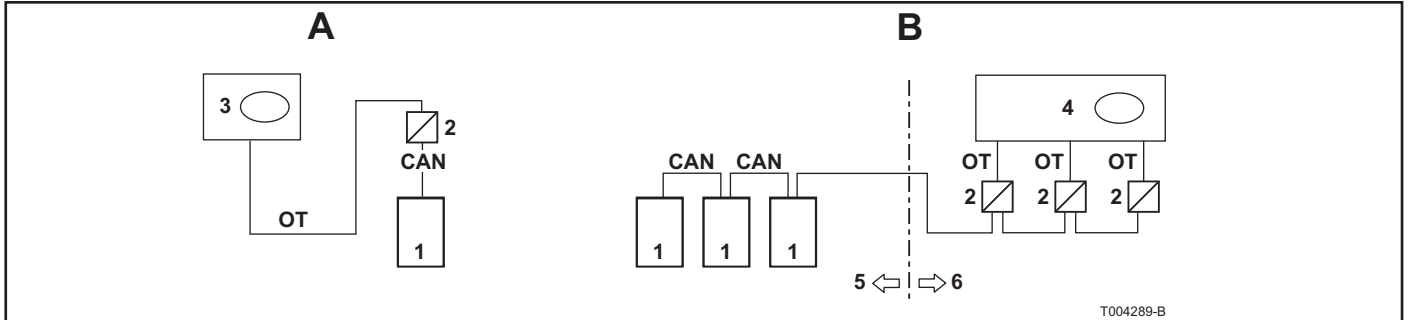

Fig. 05 CAN-bus with two nodes (A) and several nodes (B)
- Two nodes on the CAN-bus, one CAN-OT interface and one heat pump, see Fig. 05 (A).
- Several nodes on the CAN-bus, several CAN-OT interfaces and several heat pumps, see Fig. 05 (B)